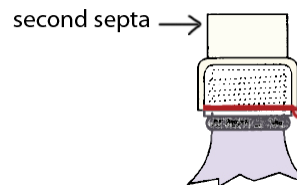

Fig. 1B For long-term storage, use a second septum
- For extra protection a second same-sized septa (sans holes) can be placed over the first (figure 1b).